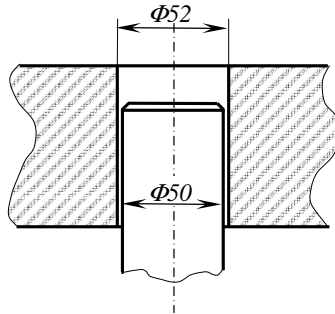
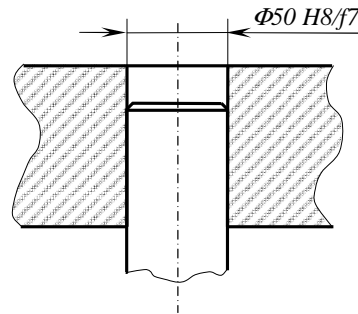

Fig. 6.8
Fig. 6.9
- The mating surfaces are defined by different basic sizes (Fig. 6.8);
- The mating surfaces are defined by *the same basic size*, which means there is a **FIT** (Fig. 6.9).
The difference between two mating surfaces which are defined by different basic sizes (Fig. 6.8) or defined by **the same basic size** (Fig. 6.9), in drawings is the way to dimension and to represent every surface extreme generatrix: in the first case every surface has its own dimension and generatrix